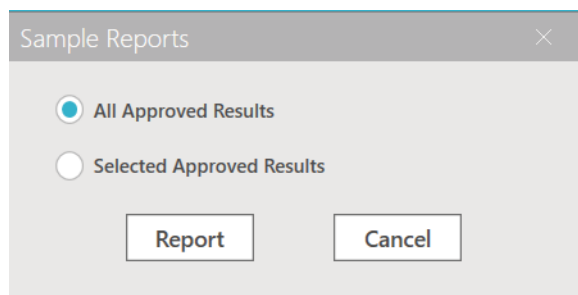

Figure 26. The 'Sample Reports' window.
3. The 'Sample Reports' window will appear (Figure 26). Select **All Approved Samples** or **Selected Approved Samples** and then **Report**. The software generates a sample report for either all approved samples or the selected subset of approved samples, depending on the option chosen. A pop-up window informs you of the location of the batch-specific folder that contains the reports.